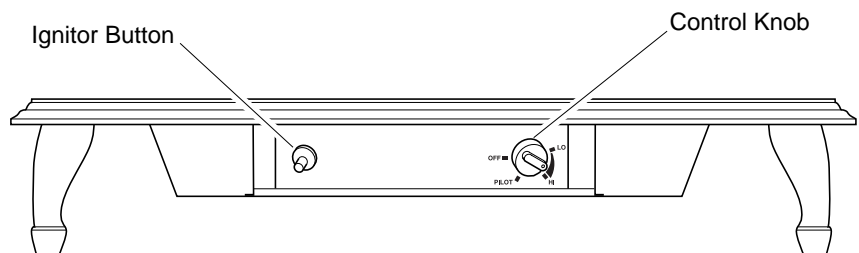

Figure 21 - Control Knob and Ignitor Button Location
4. Wait five (5) minutes to clear out any gas. Then smell for gas, including near the floor. If you smell gas, STOP! Follow “B” in the safety information on page 18 . If you don’t smell gas, go to the next step.
5. Slightly depress and turn control knob counterclockwise  to the PILOT position. Keep control knob pressed in for five (5) seconds (see Figure 21, page 18).